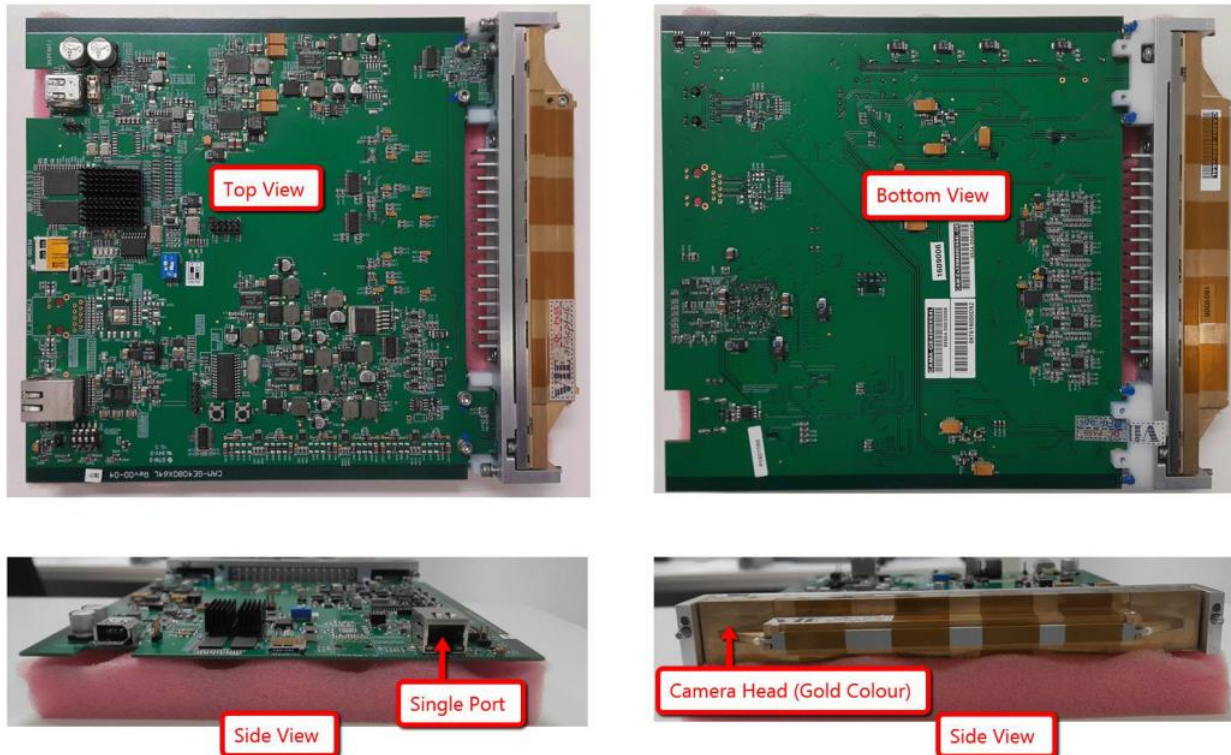

Figure 13 3G Camera (Single Port) ,PN : 2350-0063
7. Prepare 1 x 3G Camera (PN : 2350-0063/2210-0062) as below Figure 13 & 14